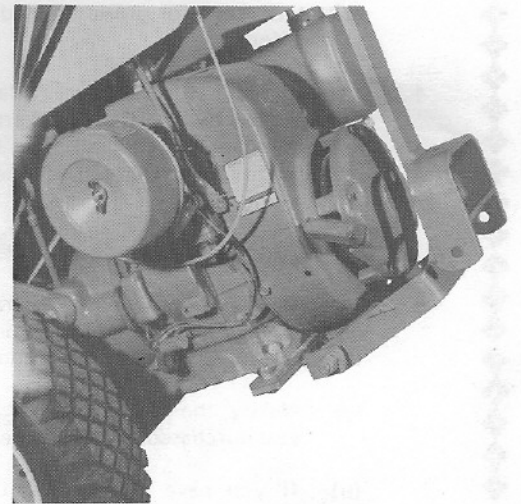

Fig. 4
4. Insert bolt (item 8) through outside hole of the stand bracket and rear hitch and secure with nut (item 9). See fig. 4.